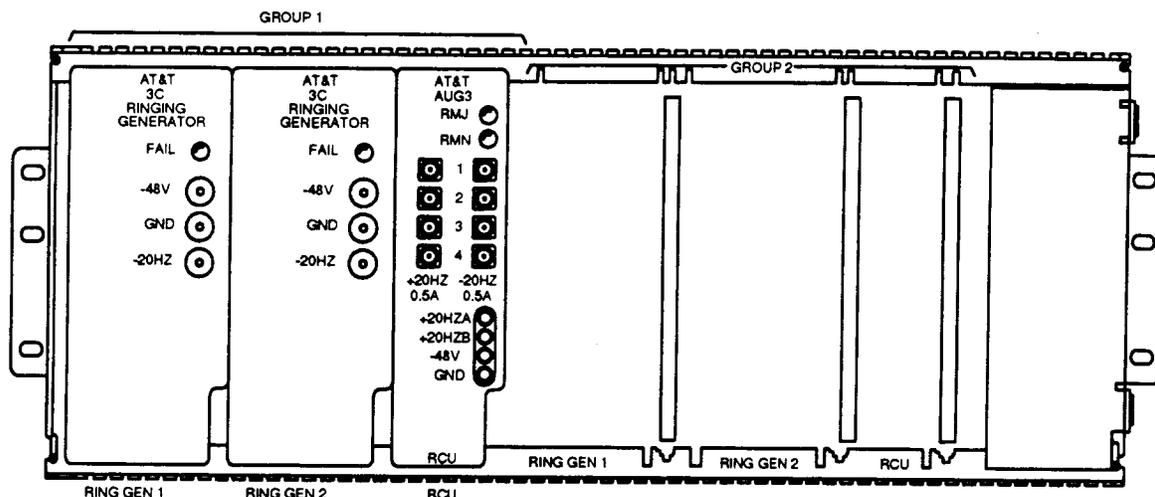

Figure 1 — Ringing Generator Installed in Ring Shelf
3. Install one **3C or 3A RINGING GENERATOR** into **GROUP 1** side - **RING GEN1** slot in ringing shelf (Figure 1).
7. On **RING GEN1**, connect DMM test leads to **-48V** jack and **GND** jack (Figure 1).